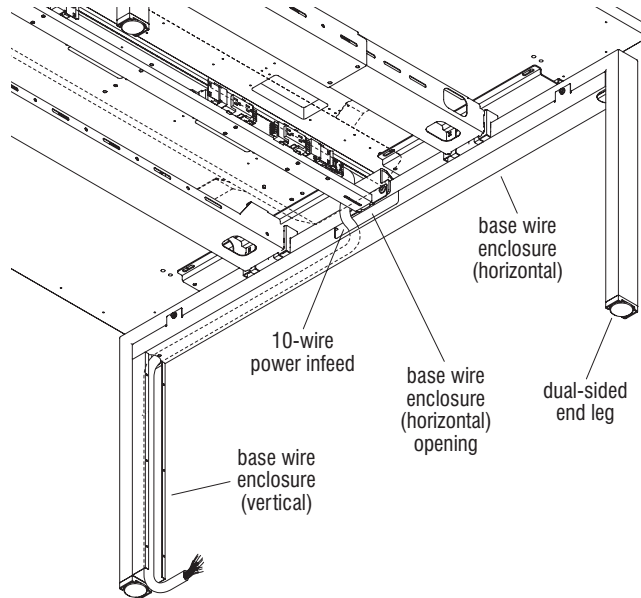
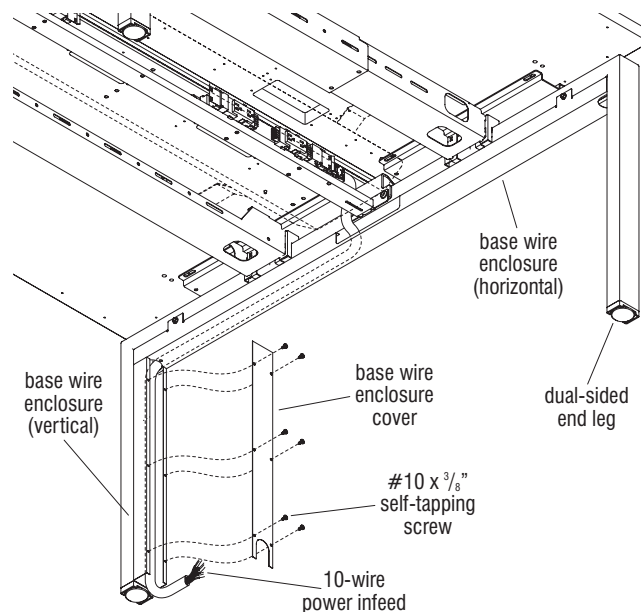

Figure 3
Figure 4
8. Place the power infeed, or other desired wires into the base wire enclosure (vertical), then position the cover of the base wire enclosure with the U-shaped opening face down as illustrated (Figure 3). Mate the cover to the wire enclosure, aligning the mounting holes of both. Using six #10 x $\frac{3}{8}$ " self-tapping screws, secure the base wire enclosure cover to the wire enclosure. Pull infeed through the enclosures, exiting at floor level (Figure 4).